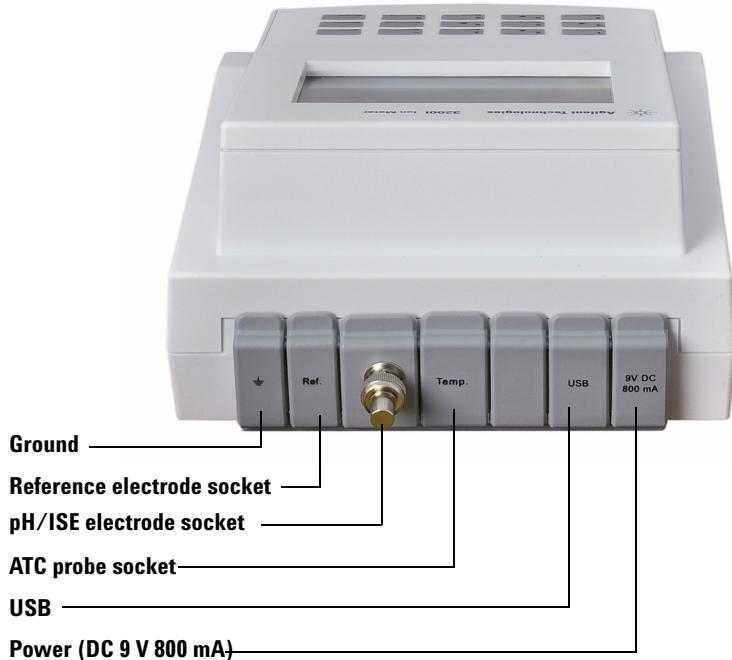

Figure 3 The back view of the 3200I Ion Meter
- 4 Locate the pH/pX and ATC probe sockets on the back of the meter. Plug the ion selective electrode (ISE) or pH combination electrode connector and ATC probe connector into the sockets on the rear of the meter. See Figure 3.
- 3 Connect the power adapter cord to the power socket on the back of the meter. See Figure 3 on page 11.